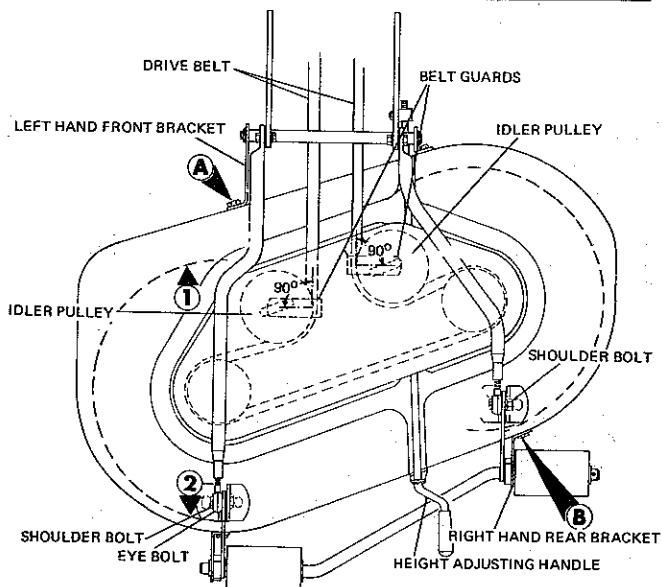

FIGURE 7
1. Loosen the left hand front bracket "A" and the right hand rear bracket "B" (See Figure 7).
2. Remove the two shoulder bolts that hold adjusting arms (See Figure 7). Be sure all roller bracket linkage is free to slide in slotted holes.
3. Establish points 1 and 2 (See Figure 7). Rotate blades to point 1 and 2. Raise the mower using the height adjusting handle (See Figure 7) so that the blade tip at point 1 is $1/8$ higher than point 2. When measuring this dimension, always rotate the blade so that all measurements are made using the same blade tip (i.e., after measuring the front tip, rotate the blade so that the rear measurement is made using the same blade tip).
6. Replace the shoulder bolts. If the holes do not line up (without pressure) screw the eye bolt (See Figure 7) into or out of the adjusting arms as necessary.